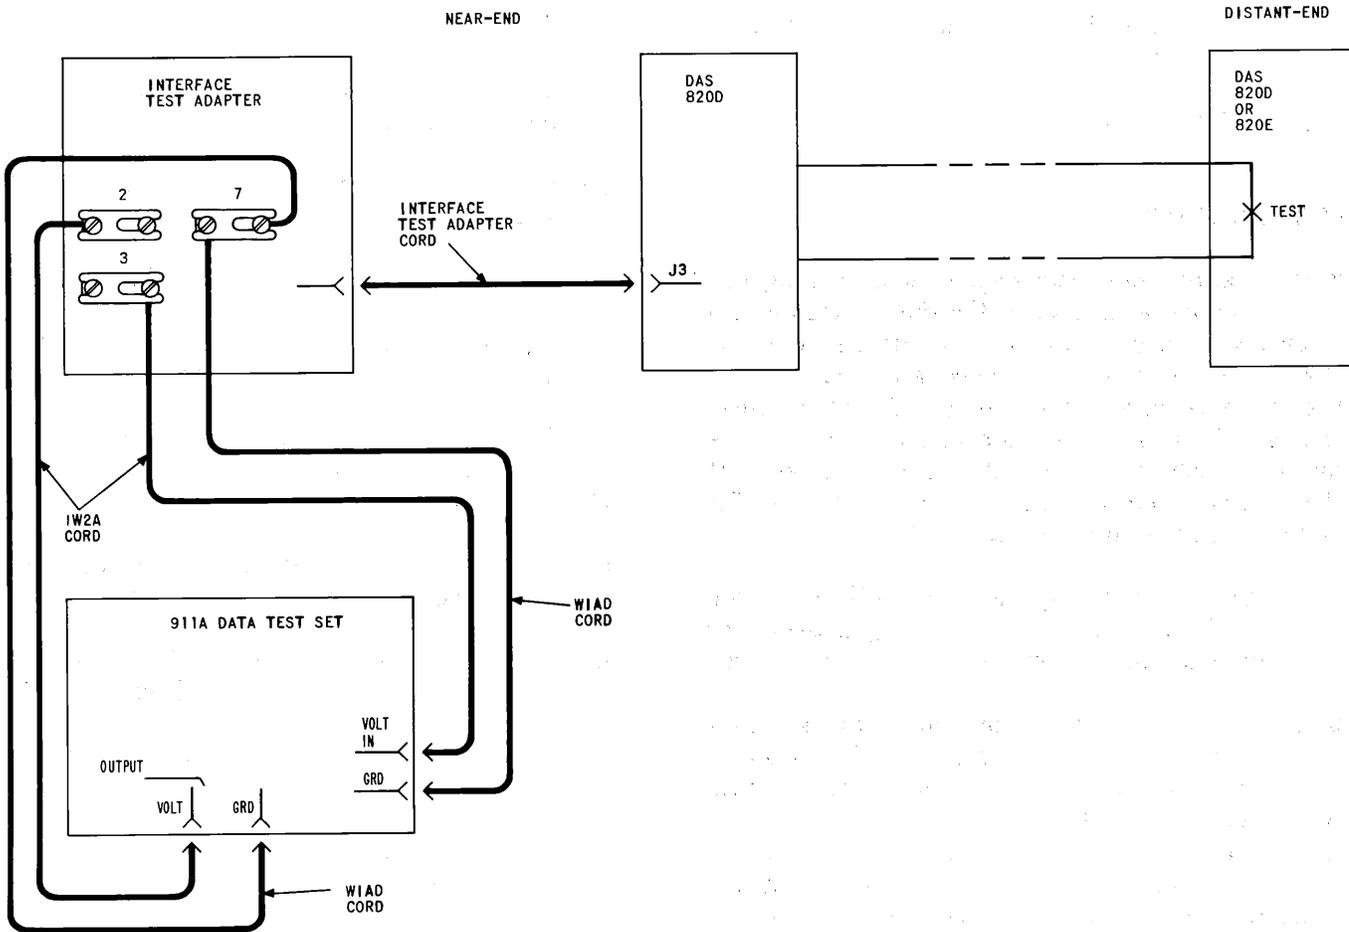

Fig. 3—Distortion Test Using 911A Data Test Set (EIA Interface Shown)
3.15 The block diagram (Fig. 3) shows the equipment setup at the terminal with EIA voltage interface for testing both directions of transmission. This checks the transmitter and receiver of both data sets and the two directions of transmission of the connecting facilities. Refer to 3.18(2), (4), and (7) for current interface information.